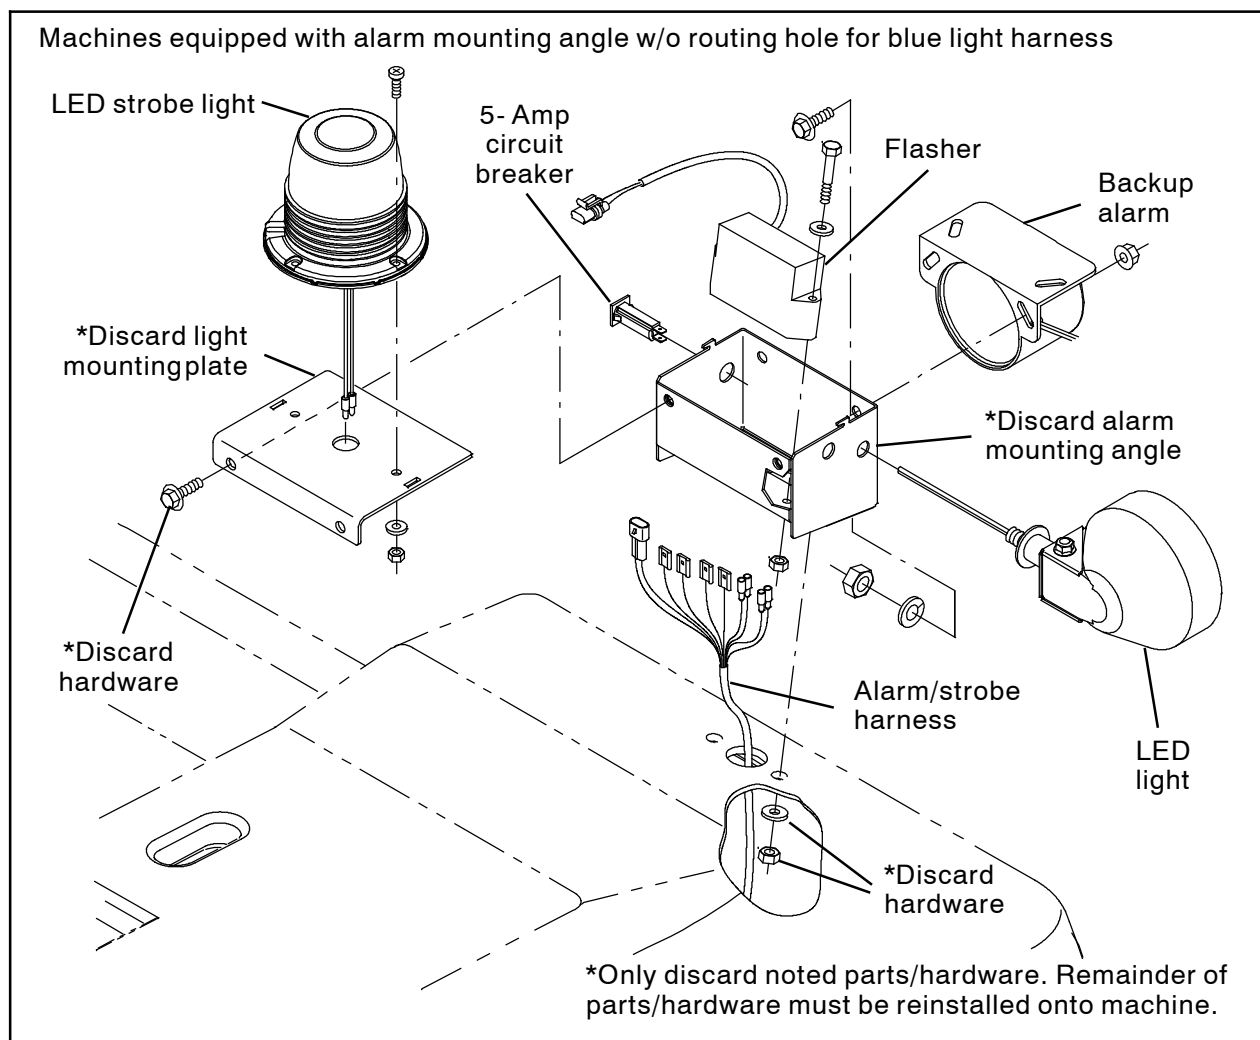
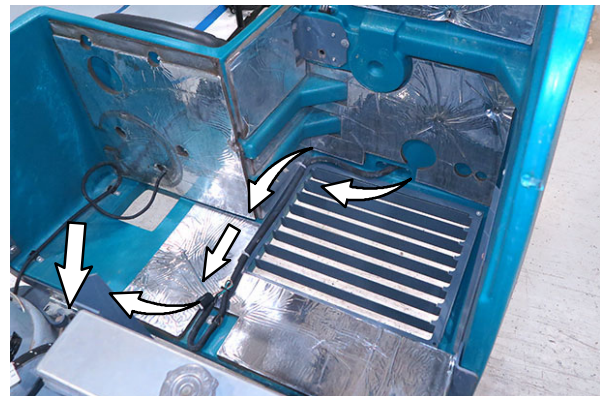
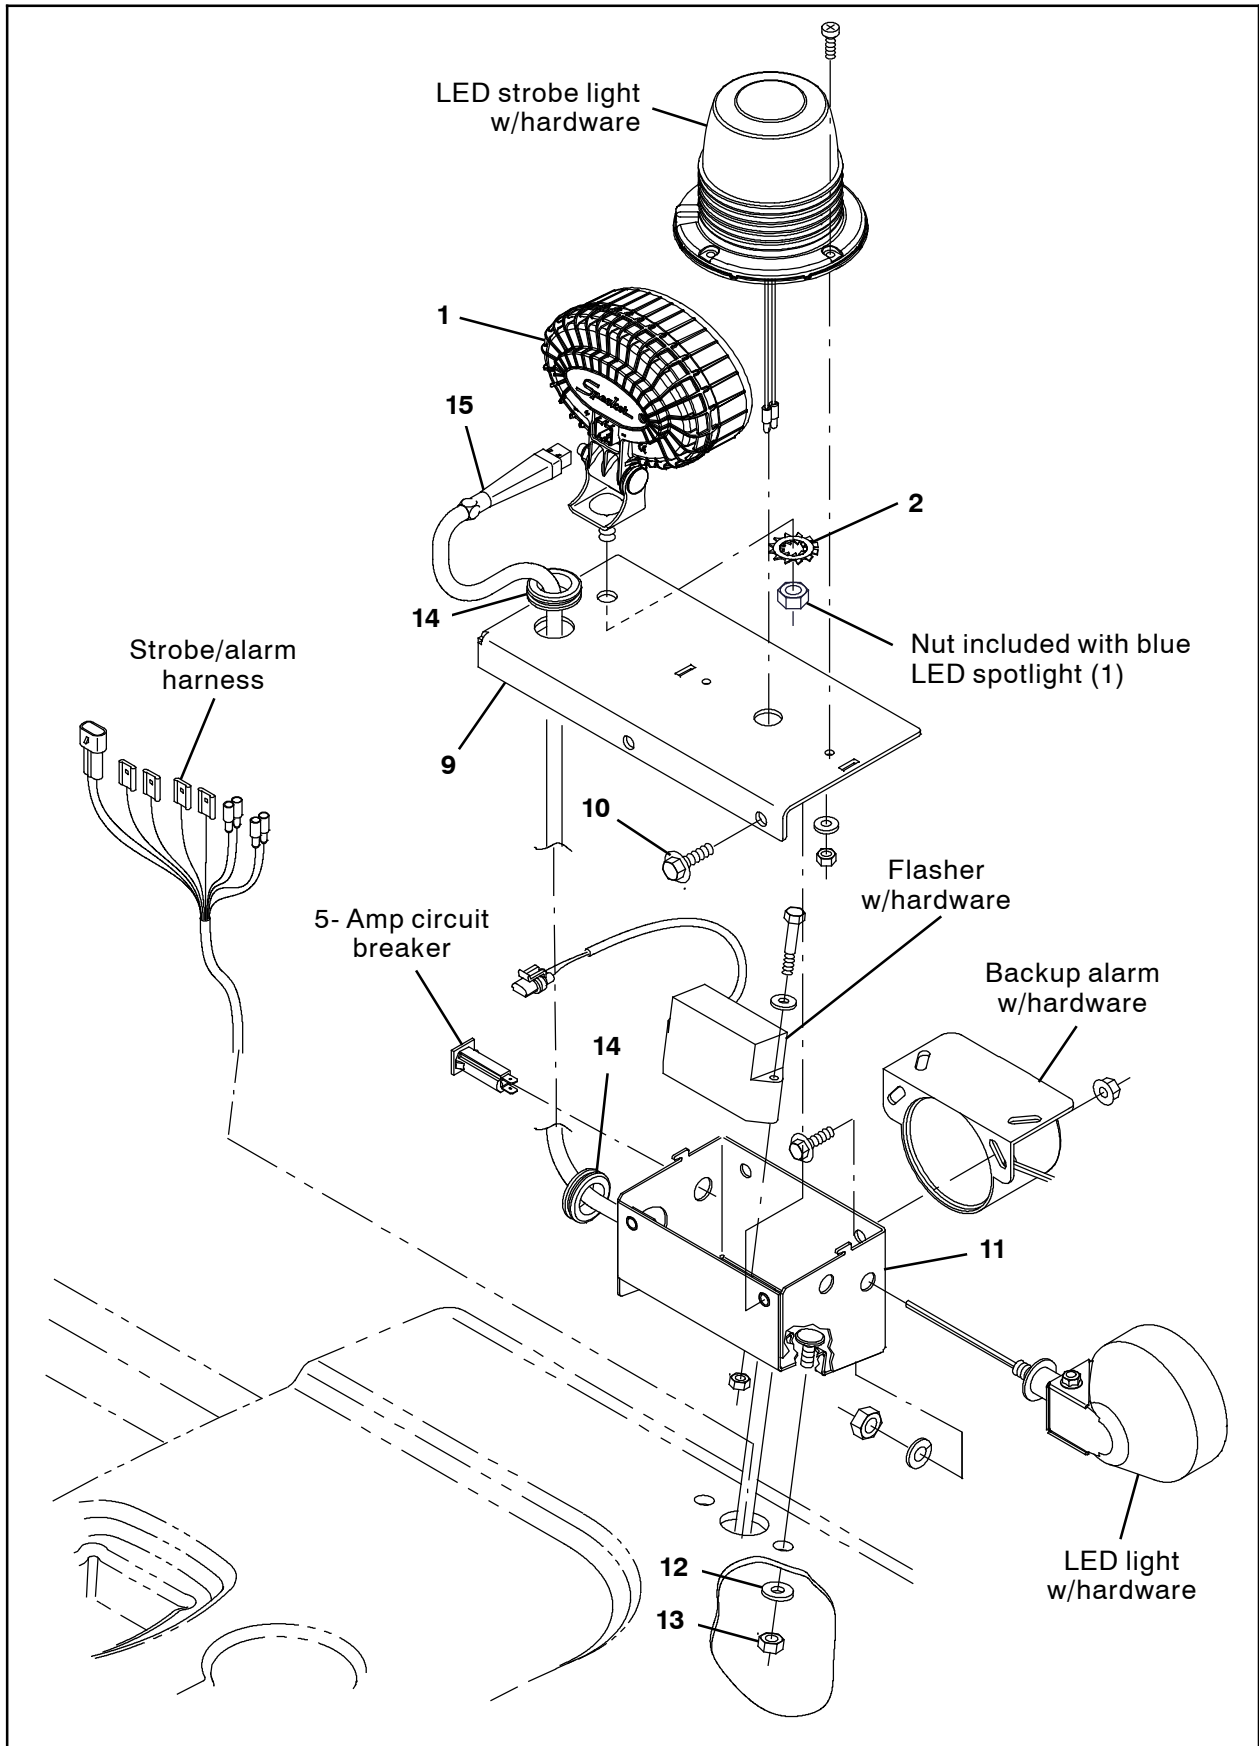
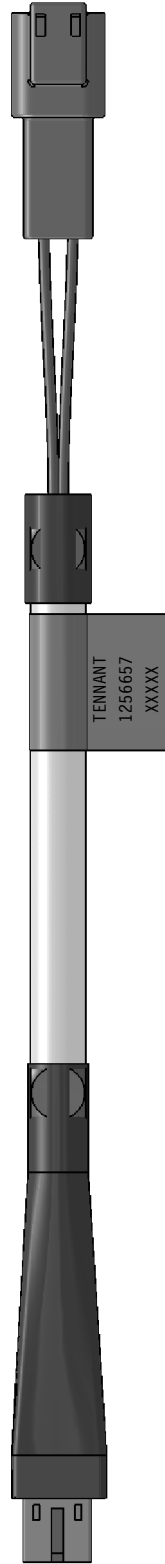

FIG. 18
FIG. 19
FIG. 20
FIG. 21
31. **All Machines:** Route the remainder of the blue spotlight harness (6) to the rear of the machine.
32. **Machines equipped with flashing light/backup alarm assembly:** Remove the flashing light/light mounting plate from the alarm mounting angle. Discard the hardware. (Fig. 18)
33. **Machines equipped with flashing light/backup alarm assembly (new design alarm mounting angle):** Remove the flashing light from the light mounting plate. Discard the light mounting plate and hardware. (Fig. 18)
34. **Machines equipped with flashing light/backup alarm assembly (new design alarm mounting angle):** Install the flashing light onto the new light mounting plate (9). (Fig. 18)
35. **Machines equipped with flashing light/backup alarm assembly (previous design alarm mounting angle):** Disconnect the alarm/strobe harness from the flashing light and remove the flashing light from the light mounting plate. Set the flashing light and hardware aside. Discard the light mounting plate. (Fig. 18)
36. **Machines equipped with flashing light/backup alarm assembly (previous design alarm mounting angle):** Disconnect the alarm/strobe harness from the 5- Amp circuit breaker, LED light, flasher, and backup alarm and remove these components from the alarm mounting angle. Set all removed components and hardware aside. (Fig. 18)
37. **Machines equipped with flashing light/backup alarm assembly (previous design alarm mounting angle):** Remove the alarm mounting angle from the machine. Discard the alarm mounting angle and hardware. (Fig. 18)
38. **Machines equipped with flashing light/backup alarm assembly (previous design alarm mounting angle):** Use two M8 hex nuts (13) and two flat washers (12) to install the new alarm mounting angle (11) onto the main cover. (Fig. 20)
39. **Machines equipped with flashing light/backup alarm assembly (previous design alarm mounting angle):** Install the 5- Amp circuit breaker, LED light, flasher, and backup alarm 5- Amp circuit breaker, LED light, flasher, and backup alarm onto the alarm mounting angle (11). (Fig. 18/Fig. 20)
40. **Machines equipped with flashing light/backup alarm assembly (previous design alarm mounting angle):** Reconnect the alarm/strobe harness to the 5- Amp circuit breaker, LED light, flasher, and backup alarm. (Fig. 20)
41. **All machines:** Install the flashing light onto the blue spotlight rear mounting bracket (9). (Fig. 20)
42. **All machines:** Remove the hex nut included with the blue LED spotlight (1) from the light. (Fig. 20)
43. **All machines:** Use the hex nut removed from the blue LED spotlight (1) in the previous step and a lock washer (2) to install the blue LED spotlight onto the blue spotlight rear mounting bracket (9). (Fig. 20)
44. **All machines:** Route the end of the blue spotlight harness (15) to be connected to the blue LED spotlight (1) through the hole in the main cover, into the alarm mounting angle (11), and through the blue spotlight rear mounting bracket (9). (Fig. 20/ Fig. 21)
45. **All machines:** Slide a grommet (14) onto the end of the blue spotlight harness (15) to be connected to the blue LED spotlight (1) installed on the blue spotlight rear mounting bracket (9). (Fig. 20/ Fig. 21)
46. **All machines:** Route the blue spotlight harness (15) through the hole in the alarm mounting angle (11). (Fig. 20)
47. **All machines:** Insert the grommet (14) into the hole in the alarm mounting angle (11). (Fig. 20)
48. **All machines:** Route the blue spotlight harness (15) through the hole in the blue spotlight rear mounting bracket (9). (Fig. 20)
49. **All machines:** Slide another grommet (14) onto the end of the blue spotlight harness (15) to be connected to the blue LED spotlight (1). (Fig. 20)
50. **All machines:** Connect the blue spotlight harness (15) to the blue LED spotlight (1). (Fig. 20/ Fig. 21)
51. **All machines:** Insert the grommet (14) into the hole in the blue spotlight rear mounting bracket (9). (Fig. 20)
52. **All machines:** Use two SEMS M8 hex screws (10) to install the blue spotlight rear mounting bracket (9) onto the alarm mounting angle (11). (Fig. 20)
53. **All Machines:** Route the blue spotlight harness (15) along the flashing light harness and to the blue spotlight harness (6). Connect the two harnesses. (Fig. 19/ Fig. 20)
54. **All Machines:** Use several cable ties (16) to secure the blue spotlight harness (15) to the flashing light harness. (Fig. 19)